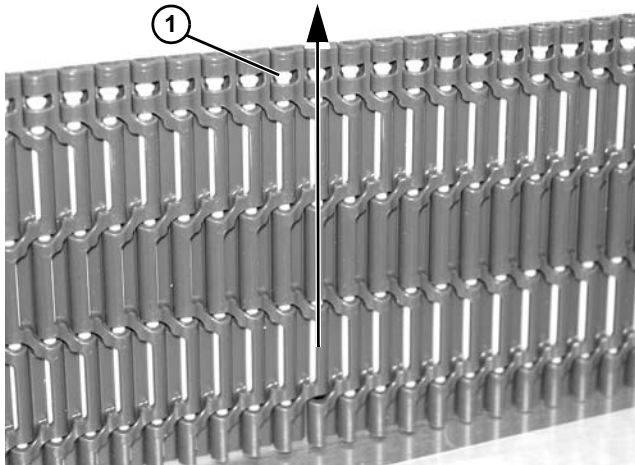

Figure 146
Note that head of pin (**Figure 146, item 1**) should be removed in direction shown.